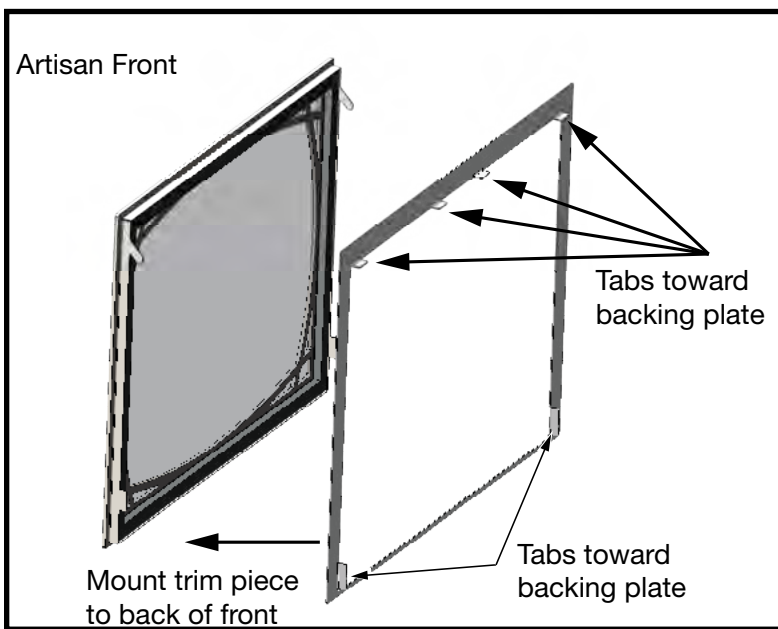

Figure 124: Trim piece mounts to rear of Front.
2. Mount the Trim piece to the rear side of the Artisan Front as indicated in Figure 124.